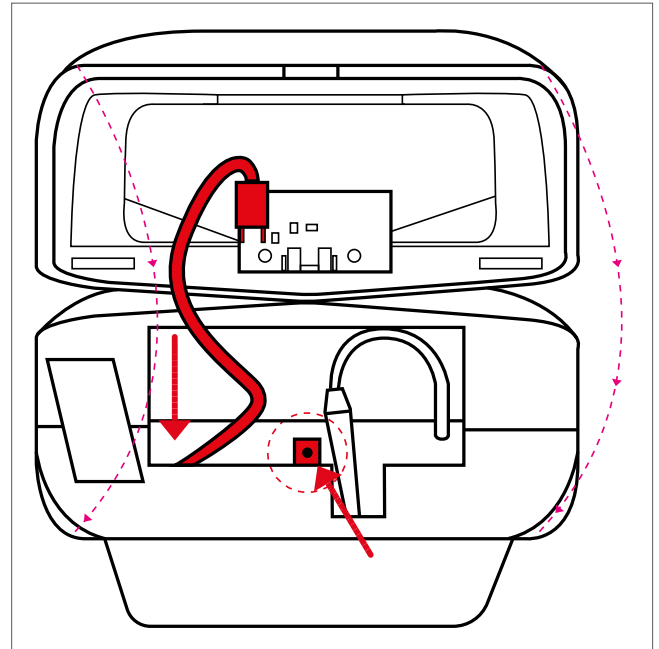

Figure 4.49 Lightassembly
2. Check to ensure the light cable is routed away from the nut to avoid damage (Fig. 4.49).